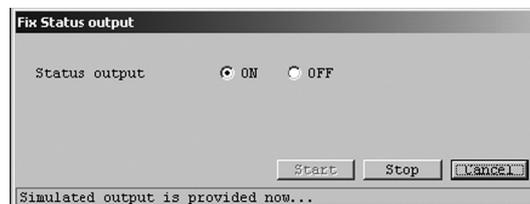

Fig.127
- ④ Click the "OK" button to cause the simulated output state to be outputted. While the simulated output is being outputted, a message at the bottom of the window will indicate that the system is "creating simulated output", as shown in Fig. 127.